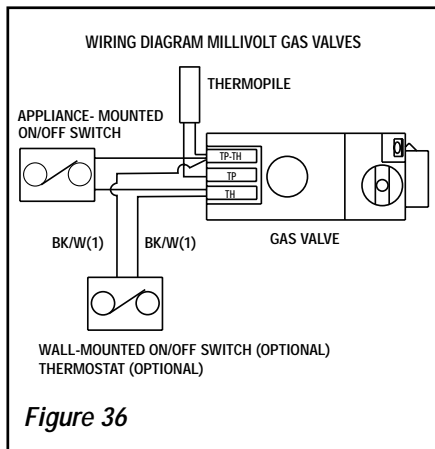

Figure 36
A. Millivolt Wiring (See Figure 36) –